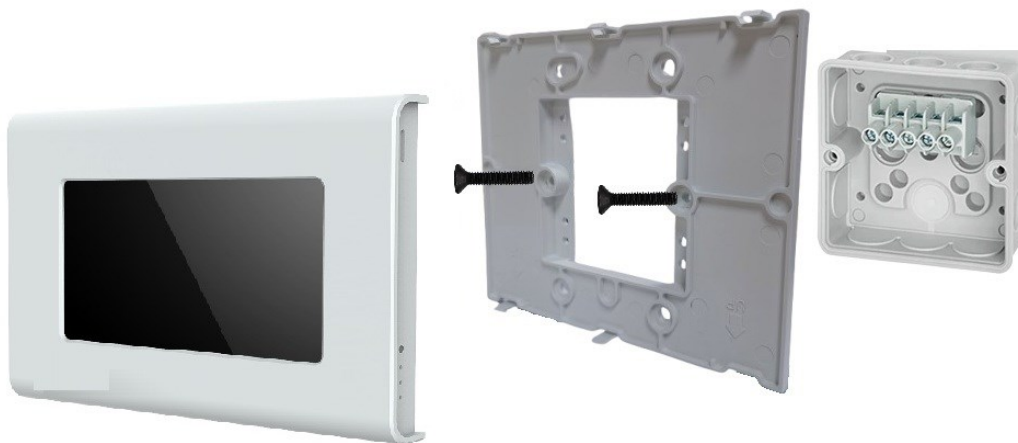

Figure 27 - Electrical Junction Box Mounting
- Mount it onto a standard 86mm x 86mm x 40mm electrical junction box using screws (minimum length 12mm, maximum length 20mm, not included in package), refer to Figure 27.